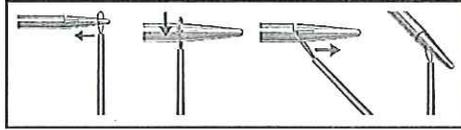

Figure 2: Association Loop Engagement
5. Engage one (1) association loop to the distal end of the needle (see Figure 2) protruding through the vagina.